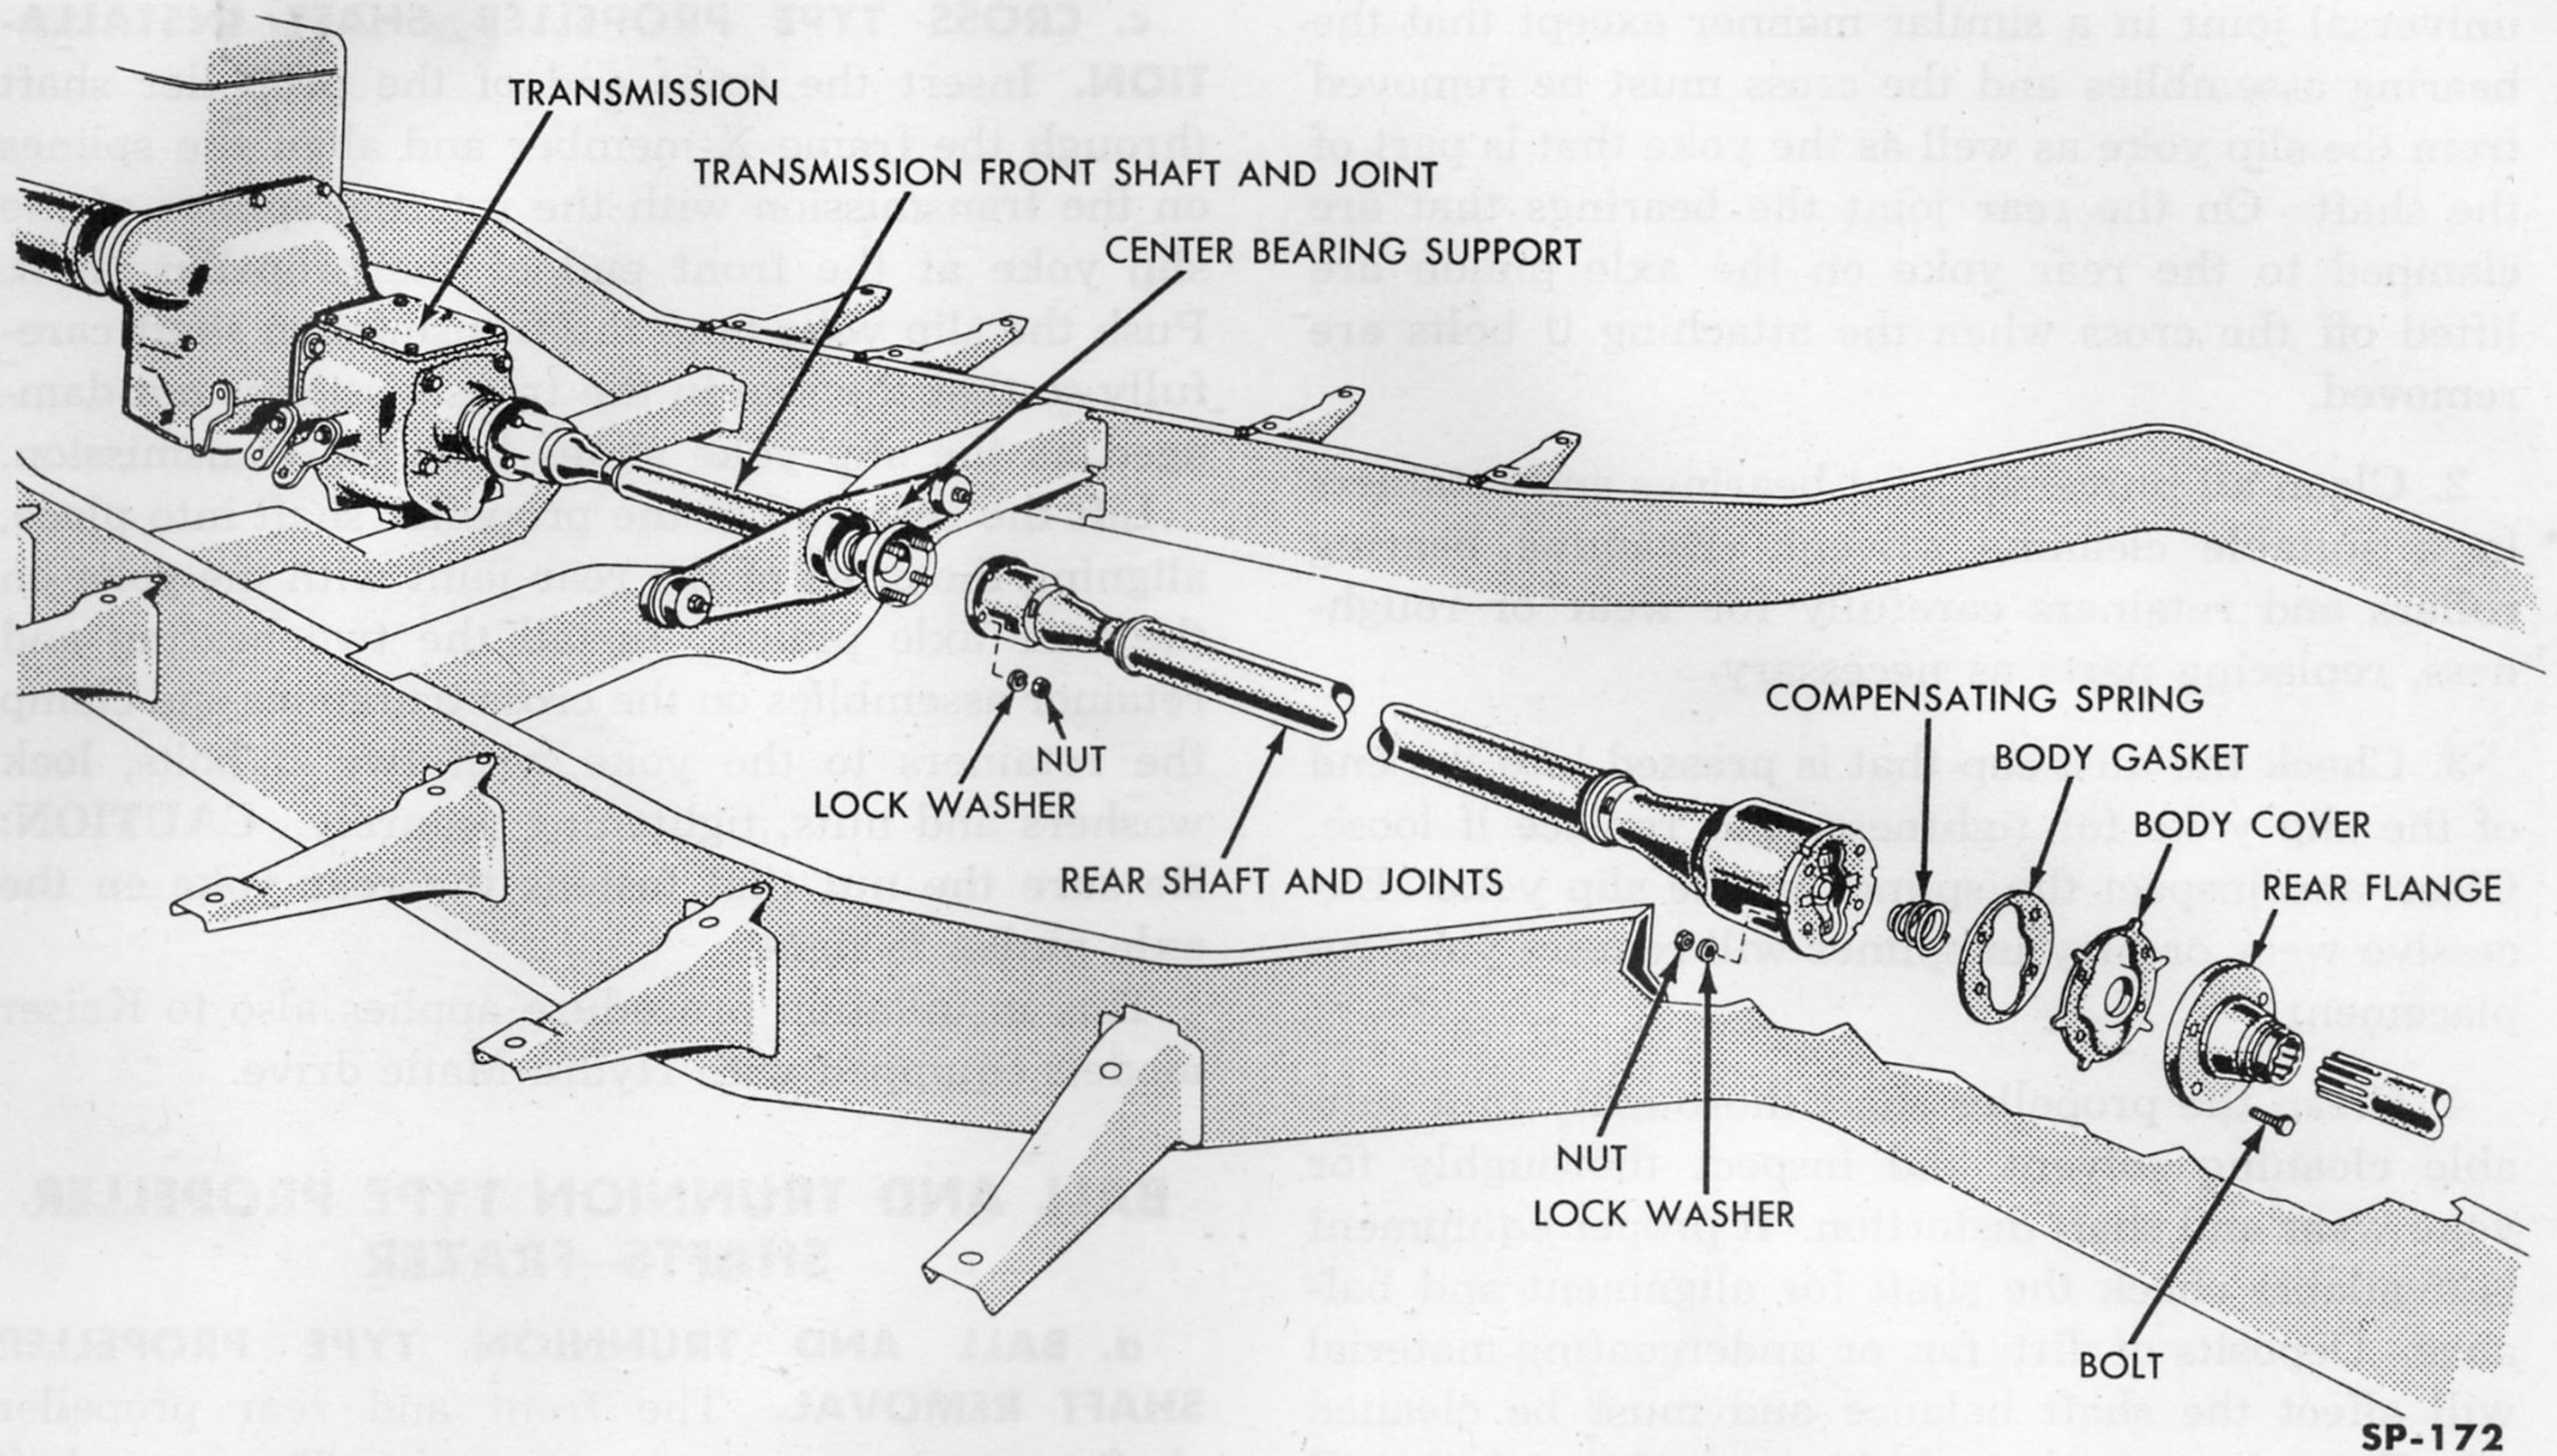

Fig. 228—Propeller Shaft Installation—Frazer
b. BALL AND TRUNNION TYPE PROPELLER SHAFTS—FRAZER (Fig. 228). The drive line from the overdrive to the rear axle in Frazer models is comprised of two tubular propeller shafts and three universal joints. The two shafts are connected at the center bearing and support assembly which is mounted on the frame number 3 crossmember by two studs and nuts and cushioned by vibration dampening rubber insulators. This method of mounting the support assembly dampens the thrust and torque vibrations of the two propeller shafts. The front shaft used with the overdrive unit is shorter than the front shaft required when vehicle is equipped with Hydra-Matic transmission.
Each joint is completely sealed by a special boot between the joint body and the shaft and by a metal cover and gasket between the joint body and the flange. The ball and trunnion type propeller shaft installation is illustrated in Fig. 228. Also, refer to Fig. 230.
1. Remove the four bolts, nuts, and lock washers attaching the front and rear universal joints at the center and rear flanges respectively and remove the rear propeller shaft (refer to Fig. 228).